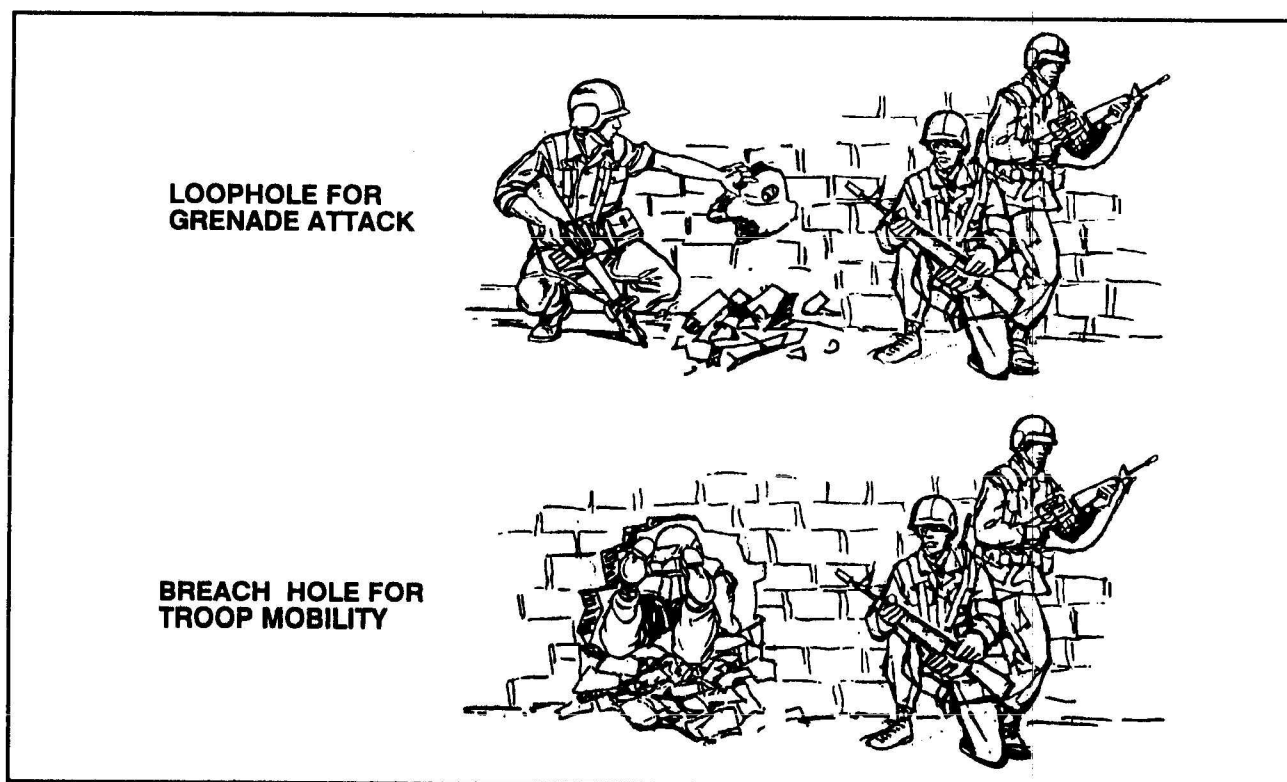

Figure 8-8. Tactical use of holes in masonry walls.
d. **Wall Breaching.** Wall breaching is a common combat task in built-up areas for which light recoilless weapons can be used. Breaching operations improve mobility by providing access to building interiors without using existing doors or windows. Breaching techniques can also be used to create loopholes for weapons positions or to allow hand grenades to be thrown into defended structures. Breach holes for troop mobility should be about 24 inches (60 centimeters) in diameter. Loopholes should be about 8 inches (20 centimeters) in diameter (see Figure 8-8). None of the light recoilless weapons organic to maneuver battalions (with the possible exception of the AT8 and SMAW) provide a one-shot wall-breaching ability. To breach walls, a number of shots should be planned.